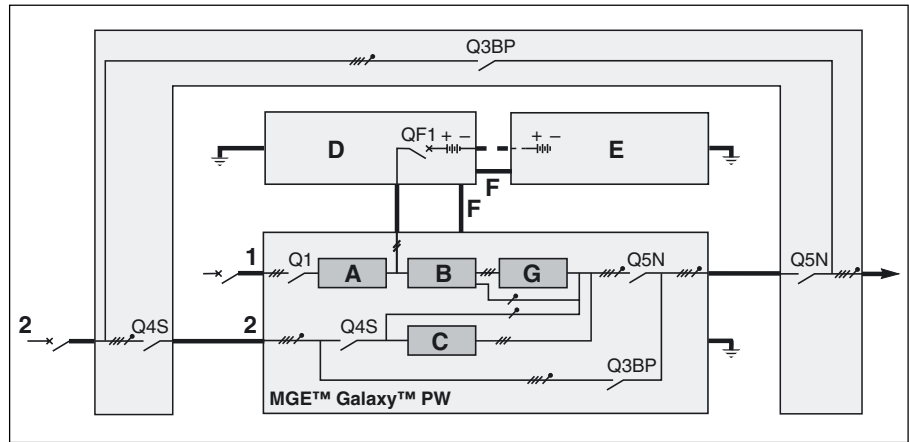
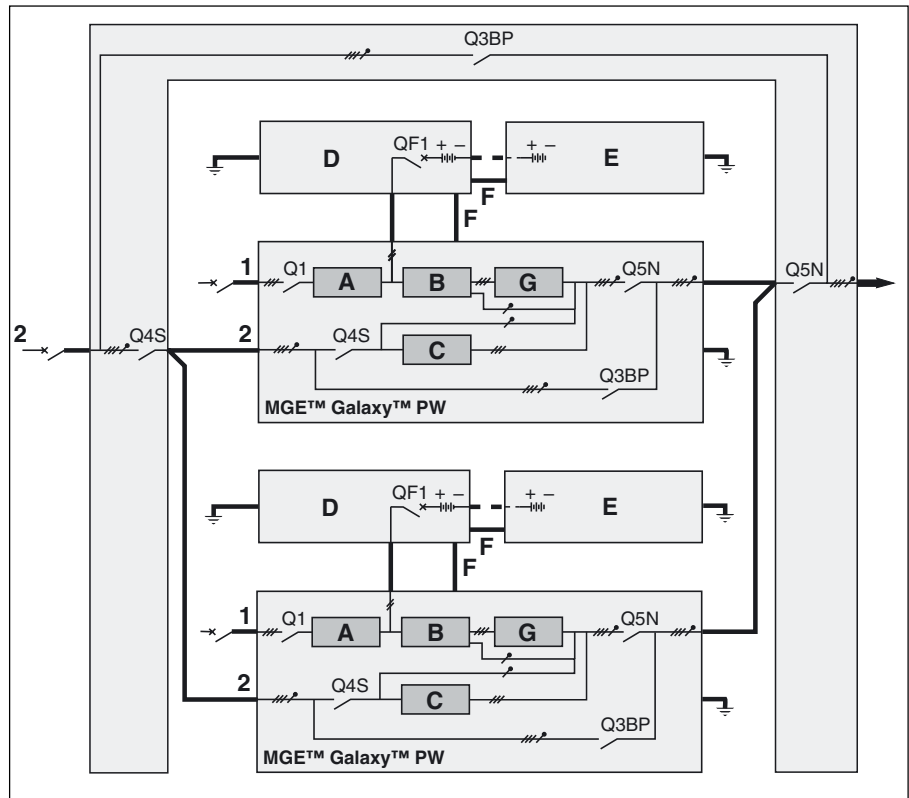

Fig. 20
Fig. 21
- ▶ see figure 20 for the power-circuit connections of a single-UPS unit and figure 21 for the power-circuit connections of redundant parallel UPSs. Power cables for UPS-to-bypass connections are not supplied.